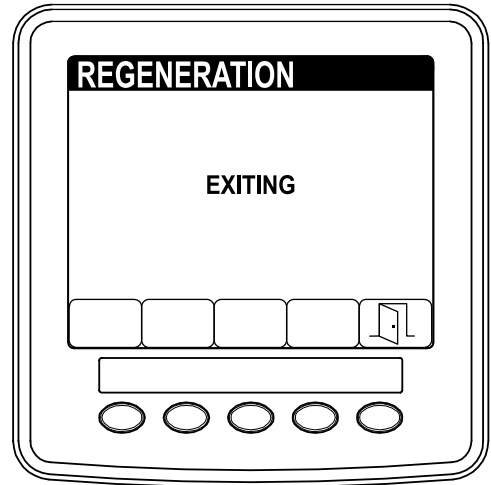

Figure 9
**Note:** If you press button 5 while the regeneration is processing, you will exit the regeneration process. At the EXIT screen press button 5 to return to the SERVICE menu (Figure 9).